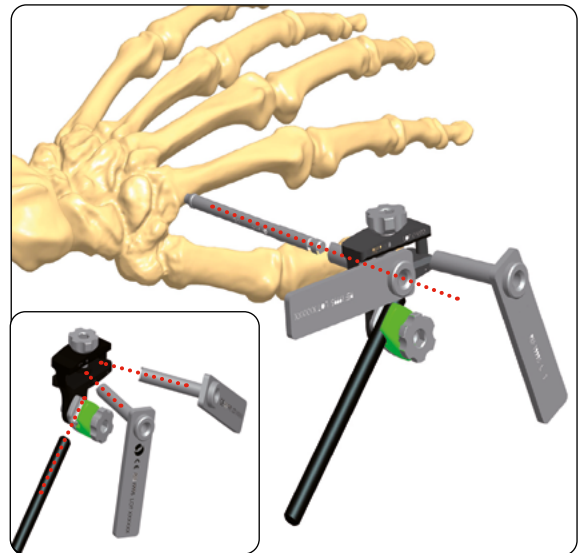

Fig. 6
- Insert the two screw guides into the clamp (**Fig. 6**)